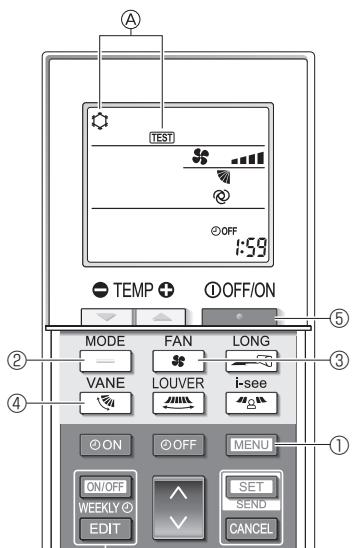

Fig. 8-5
2. Press the **[MENU]** button ① for 5 seconds. (Fig. 8-5)
3. Press the **[MENU]** button ①.
④ [TEST] and the current operation mode are displayed. (Fig. 8-5)
4. Press the **[—]** button ② to activate cool mode, then check whether cool air is blown out from the unit.
5. Press the **[—]** button ② to activate heat mode, then check whether warm air is blown out from the unit.
6. Press the **[fan]** button ③ and check whether the fan speed changes.
7. Press the **[vane]** button ④ and check whether the auto vane operates properly.
8. Press the **[•]** button ⑤ to stop the test run.